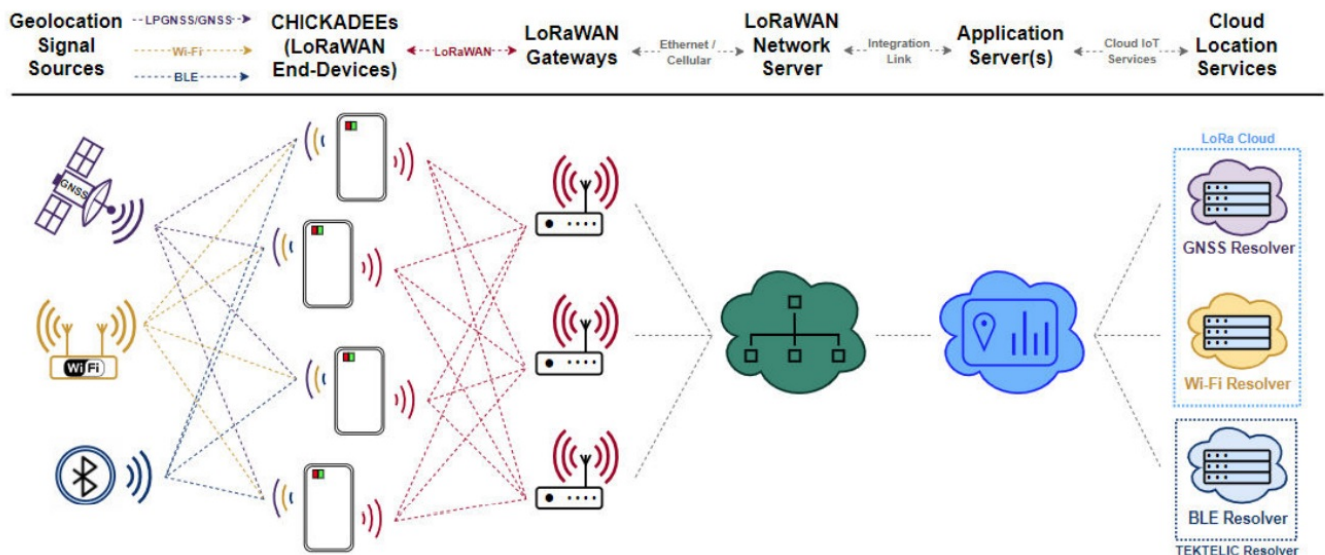

Figure 1-1: CHICKADEE Location Tracking End-to-End Architecture
1. **NOTE:** Only raw scan data is present in the LoRaWAN payloads, not sensor location information. In order to track and visualize a CHICKADEE’s location, an application server must be set up, integrated with the NS, and enabled to use the proper cloud location services. The information in this document is for the CHICKADEE sensor only; for information about setting up the rest of the end-to-end solution shown in Figure 1-1, refer to the TEKTELIC support portal Knowledge Base.